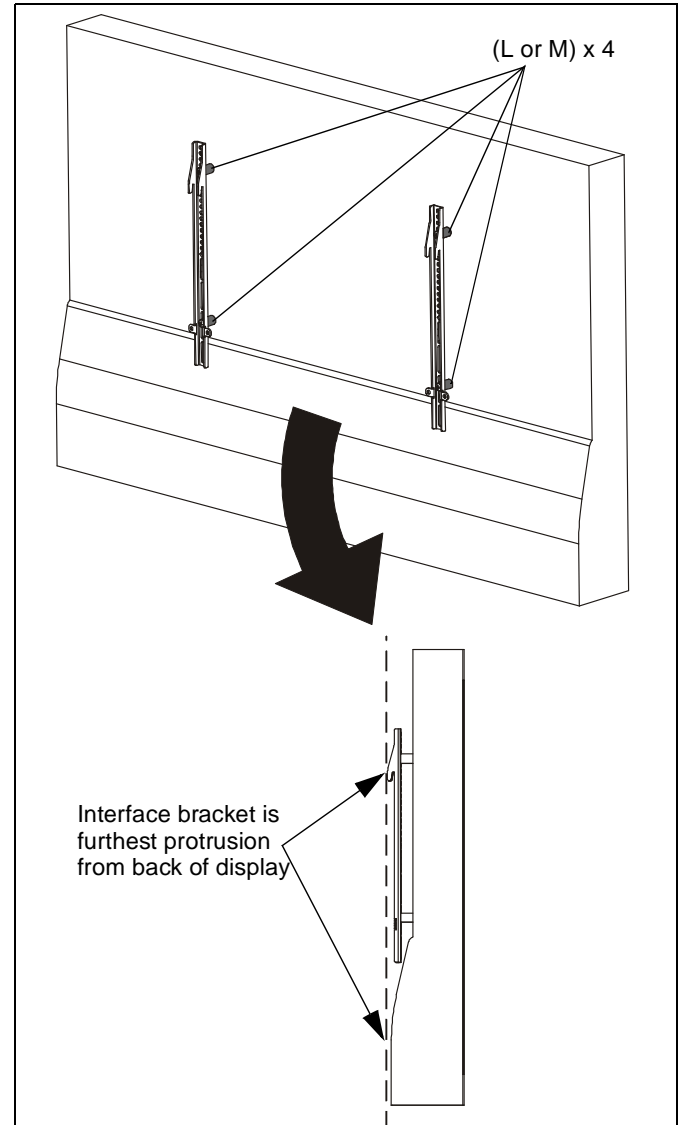

Figure 25
**CAUTION:** THE INTERFACE BRACKETS ATTACHED TO THE DISPLAY MUST BE THE FURTHEST POINT OF PROTRUSION FROM THE DISPLAY BACK. If the display has any protrusions from the back it may be necessary to add spacers during attachment to the interface brackets, so that interface brackets are furthest protrusion from back of PXR. (See Figure 25)